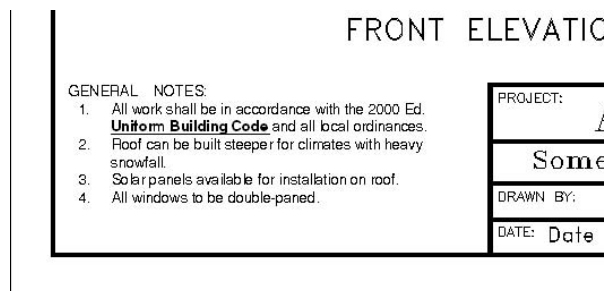

FIGURE 10.37: The Mtext with individual words modified
2. Use the same technique as earlier to highlight just the Uniform Building Code text. Then click the Bold (B) and Underline (U) buttons on the Text Formatting toolbar. The selected text is underlined and boldfaced.
3. Click OK. The text is redrawn with the changes (see Figure 10.37).